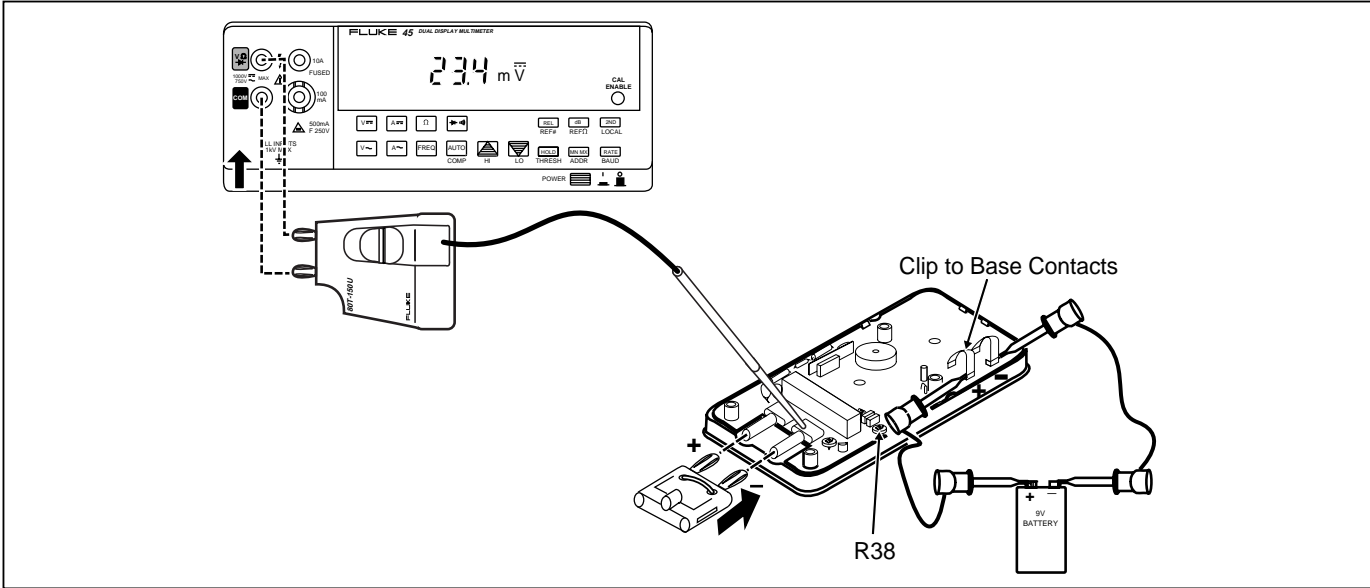

Figure 5. Calibration Adjustment for Temperature Using the 80T-150U
3. Observing the correct polarity, connect a copper short across the input jacks of the Meter (see Figure 5).
4. Using a temperature probe with the appropriate Meter (Fluke 45 or equivalent), measure the temperature of the COM input jack (see Figure 5). Be sure to place the probe on the COM closest to the pca.